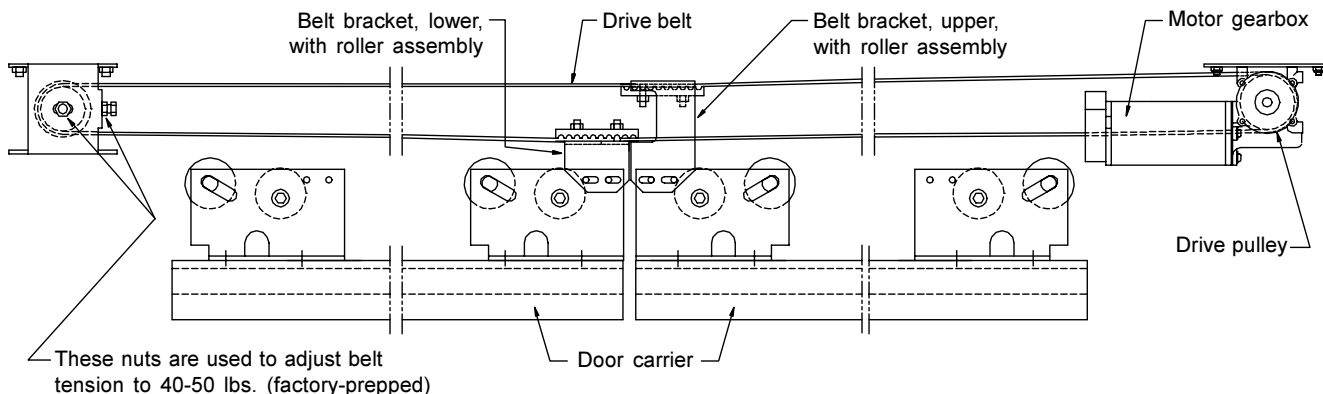

Figure 12. Belt Drive Assembly
1. Refer to **Figure 12** for a detailed breakdown of internal drive components.